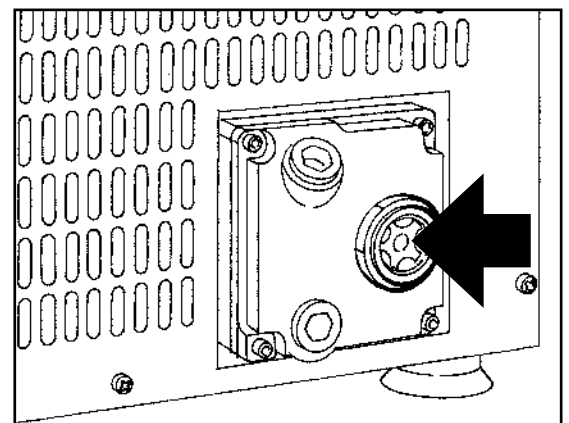

Fig. 2
- c) Check the oil level in the pump through the glass window provided on it (**Fig. 2**). If the level is insufficient, follow the instructions described in the “CHANGING THE PUMP OIL” Chapter.